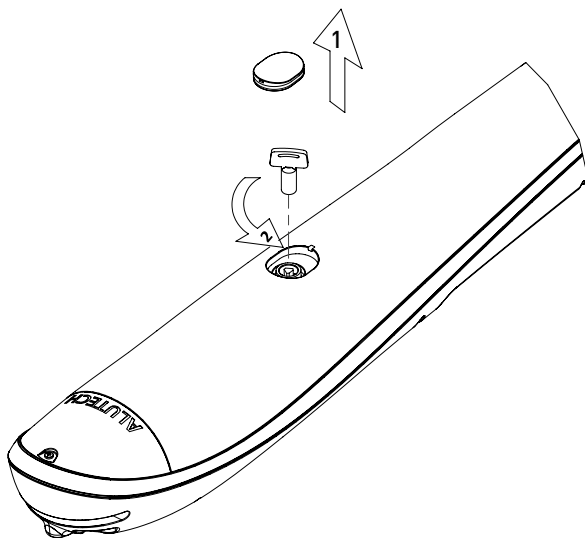

Figure 15. Manual release
To release the drive (fig. 15), use the special key supplied with the drive kit. Turn the key to  $\sim 180^\circ$  towards the **OPEN** label. To return the drive to the locked (engaged) state, turn the key towards the **CLOSE** label. Once you have locked it, move the leaf manually, slowly, without shocks or impacts until you hear a distinctive engagement click.
- Release the drive as shown in *fig. 15*.